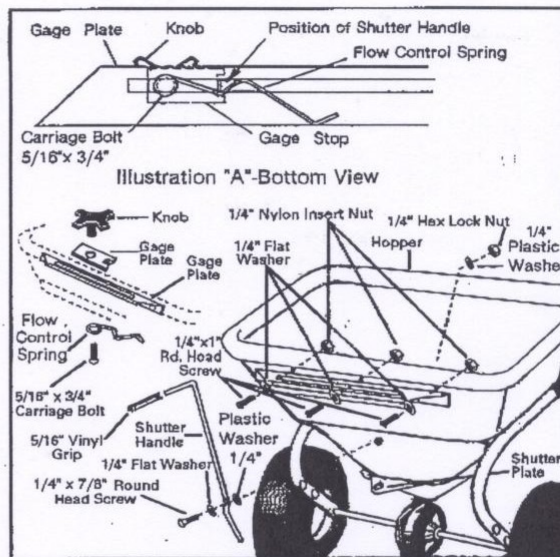

FIG. 7.
Refer to FIG. 7.
- Secure with 5/16" x 3/4" carriage bolt, flow control spring (under carriage bolt head) as shown in Fig. 7- Illustration "A". Insert from under gage plate, up through gage stop, securing with plastic knob. Slide to the left and tighten.
- The control lever operates the flow control shutter. The flow gage plate (Fig.7) is marked 0 to 10. The position selected determines the amount of material to be broadcast. The higher the number, the heavier the application of material.
NOTE: Close shutter before filling hopper. Keep the knob, (Fig.7) and shutter control stop tight at all times.